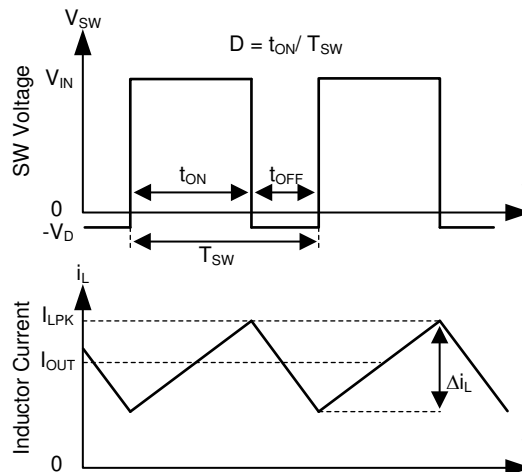

图 10-2. SW Node and Inductor Current Waveforms in Continuous Conduction Mode (CCM)
The TPS2586x-Q1 integrates a monolithic, synchronous, rectified, step-down, switch-mode converter with internal power MOSFETs and USB current-limit switches with charging ports auto-detection. The TPS2586x-Q1 offers a compact solution that achieves up to 5 A of continuous output current with excellent load and line regulation over a wide input supply range. The TPS2586x-Q1 supplies a regulated output voltage by turning on the high-side (HS) and low-side (LS) NMOS switches with controlled duty cycle. During high-side switch ON time, the SW pin voltage swings up to approximately V_{IN} . The inductor current, i_L , increases with linear slope $(V_{IN} - V_{OUT}) / L$. When the HS switch is turned off by the control logic, the LS switch is turned on after an anti-shoot-through dead time. Inductor current discharges through the LS switch with a slope of $-V_{OUT} / L$. The control parameter of a buck converter is defined as Duty Cycle $D = t_{ON} / T_{SW}$, where t_{ON} is the high-side switch ON time and T_{SW} is the switching period, shown in 图 10-2. The regulator control loop maintains a constant output voltage by adjusting the duty cycle D . In an ideal buck converter, where losses are ignored, D is proportional to the output voltage and inversely proportional to the input voltage: $D = V_{OUT} / V_{IN}$.